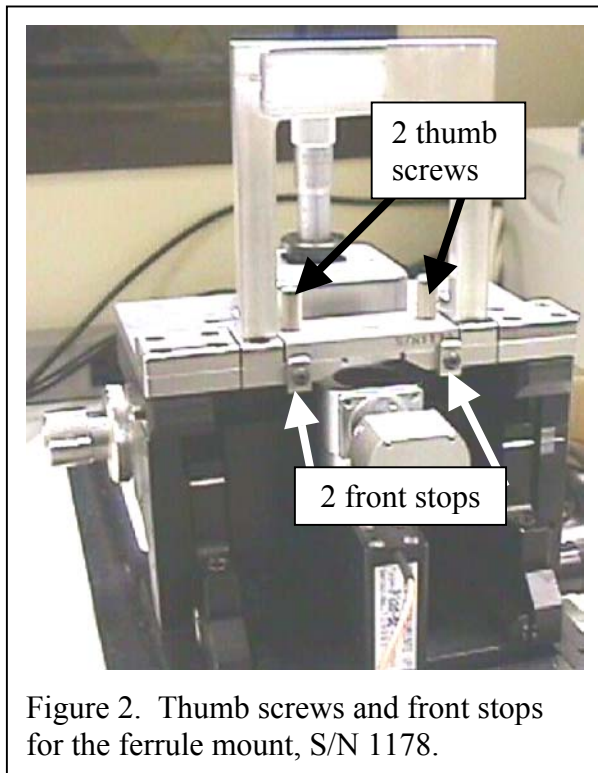

Figure 2. Thumb screws and front stops for the ferrule mount, S/N 1178.
3. Ferrule mount. Install the ferrule mount. As the two thumbscrews are tightened press the mount against the two front stops. See Figure 2.